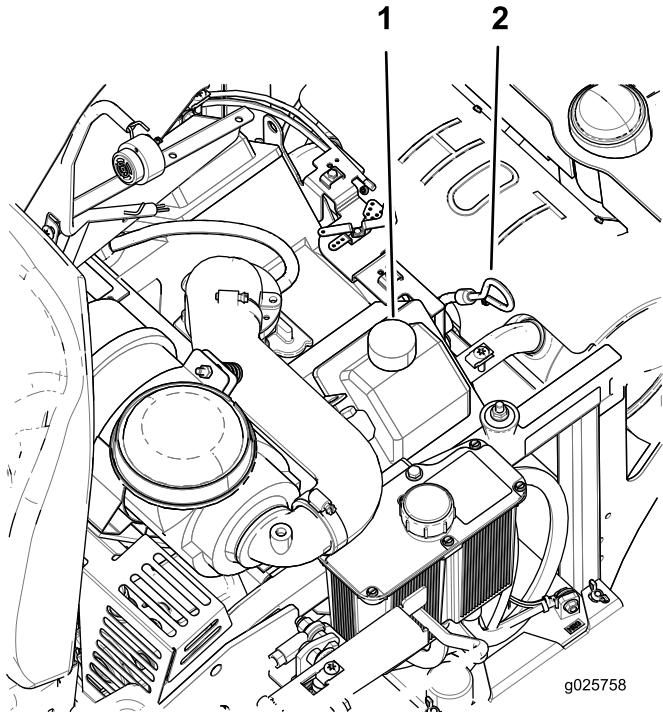

Figure 33
5. Clean the area around the dipstick (Figure 33).
- If the oil level is low, wipe off the area around the oil fill cap, remove cap and fill to the **full** mark on the dipstick (Figure 33). Do not overfill.
4. Slowly pour approximately 80% of the specified oil into the filler tube and slowly add the additional oil to bring it to the **full** mark on the dipstick (Figure 33).
5. Start the engine and drive to a flat area. Check the oil level again (Figure 33).